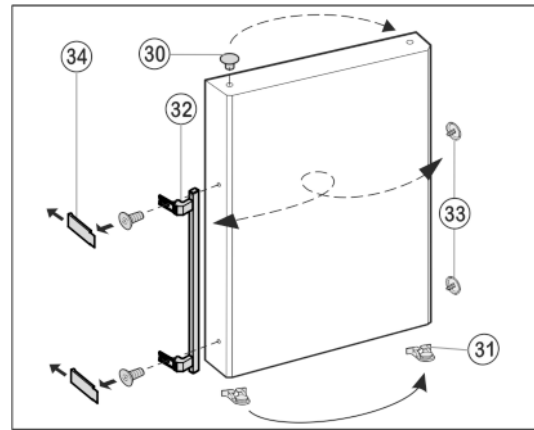

Fig. 11
- ▶ Lift the stopper *Fig. 11 (30)* out of the door bearing bush and transfer it.
- ▶ Detach door handle *Fig. 11 (32)*, stopper *Fig. 11 (33)* and pressure plates *Fig. 11 (34)* and transfer to the opposite side.